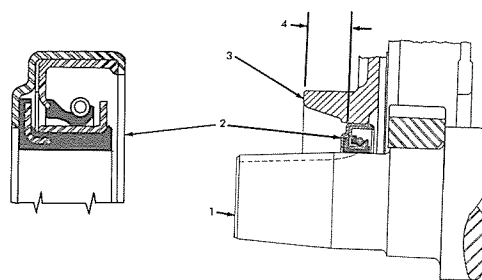
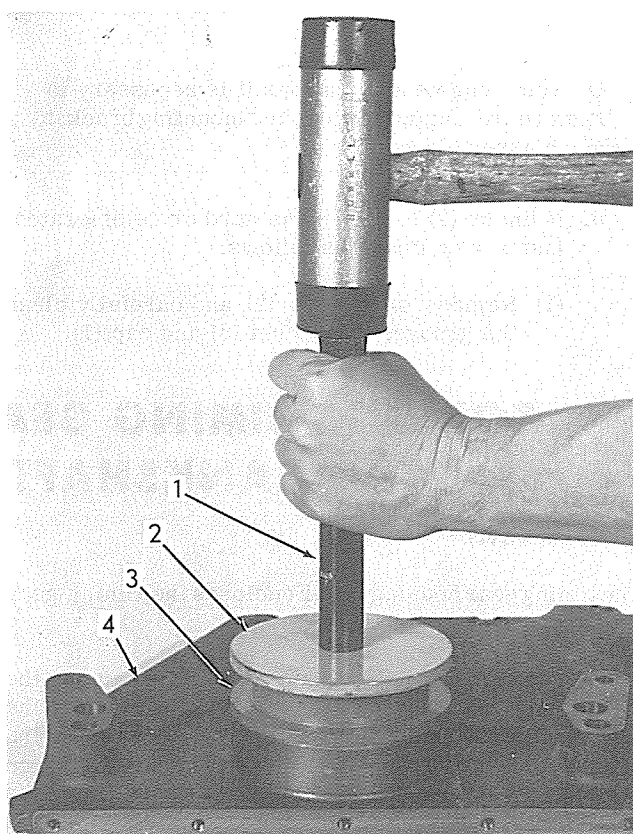

Fig. 7 — Crankshaft Front Oil Seal Location (T-71020)
Fig. 8 — Installing Crankshaft Front Oil Seal (T-71021)
The O.D. of seal, Fig. 7 (2), has a layer of red-colored sealant which forms a seal between the O.D. of seal and the bore in the cover (3) eliminating the need of putting a sealing compound on O.D. of seal prior to pressing it into the cover. The I.D. of seal has a layer of rubber compound to prevent oil leakage between the seal and the crankshaft (1).
- a. Place cover on a flat surface with the front side to the top, Fig. 8.
- c. Drive or press seal into cover bore the specified distance of 1-1/64" — 1-1/32" as shown in Fig. 7 (4). Using the service tool shown in Fig. 8 will properly position the seal the correct distance in the cover bore, and will place the driving force on the outer edge of the seal.